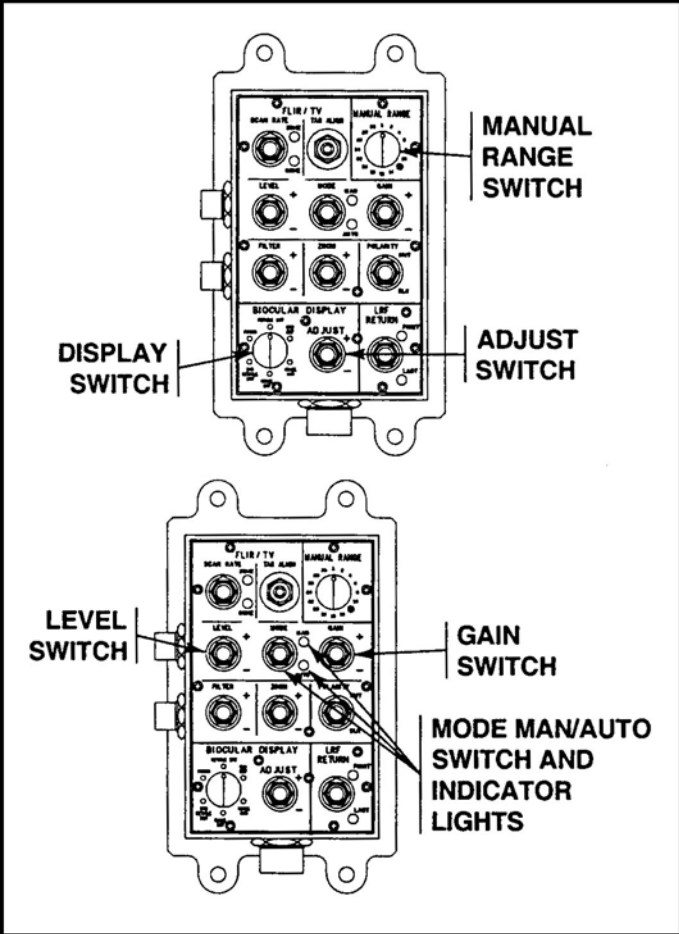

Figure 9. MODE switch.
- a. Press and release the MODE switch on the GSCP down to AUTO (Figure 9).